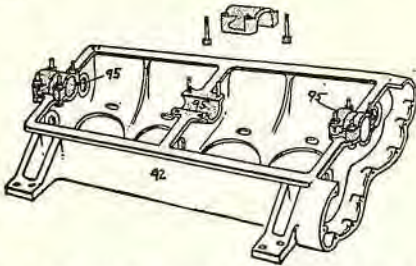

Fig. 1. Main bearings. Upper half of crank case upside down.
Crank case: A reference to Fig. 1 will show an aluminum crank case, upper-half part, which we lay on the floor, upside down, so that we can see the bearings (95).